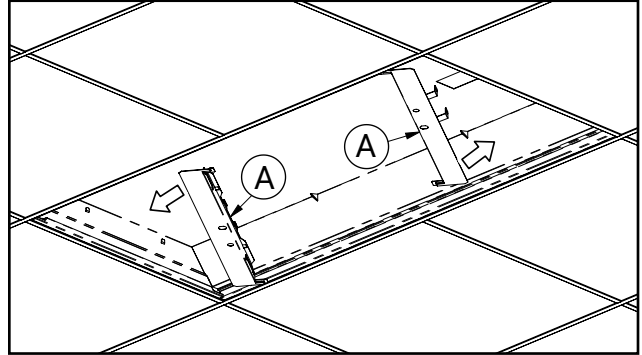

Figure 5.
5. Install Anchor Rails (A) in-between original troffer and the T-grid (Fig. 5).